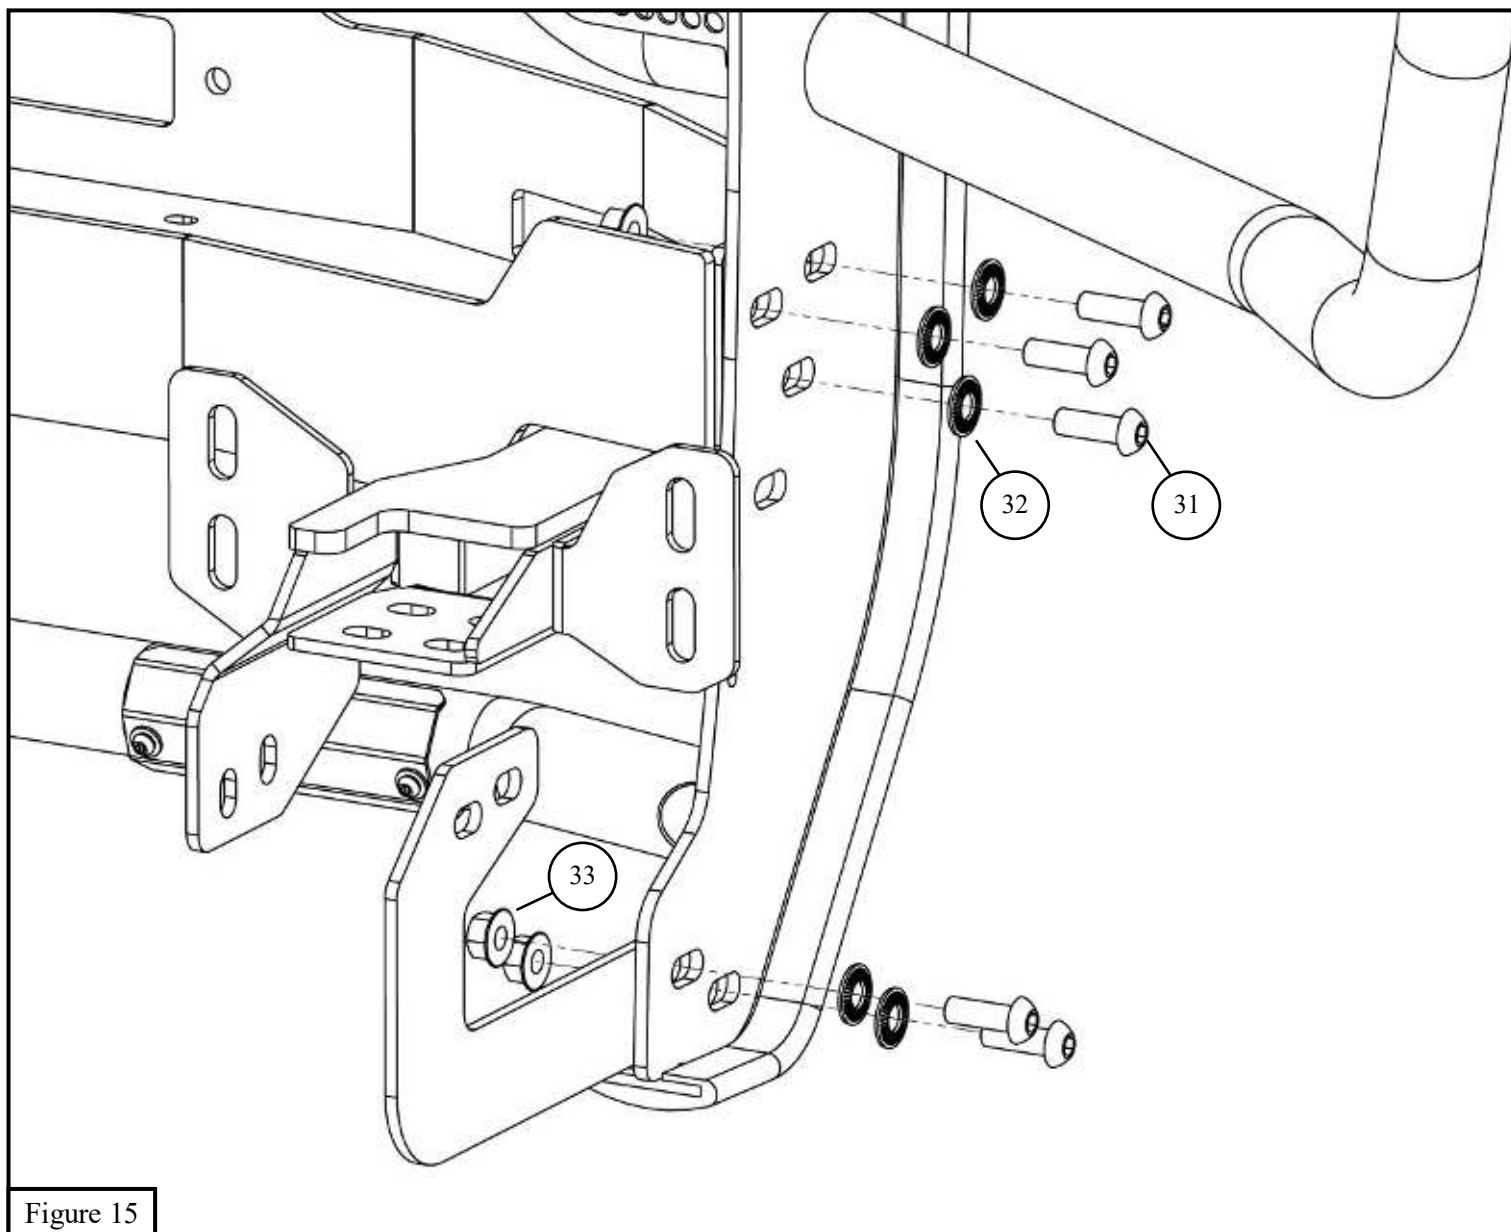

Figure 15
28. Loosely install the grille guard assembly (**item 17**) onto the winch tray and brackets using the black M12 hardware (**items 31-33**). See **Figure 15**.
33. Use the zip ties (**item 34**) to hold the sensor harness extenders in place.